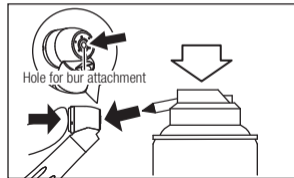

Fig. 13
- 2) Lubricate the chuck with NSK PANA SPRAY Plus for 1 to 2 seconds directly through the bur insertion hole. (Fig. 13)